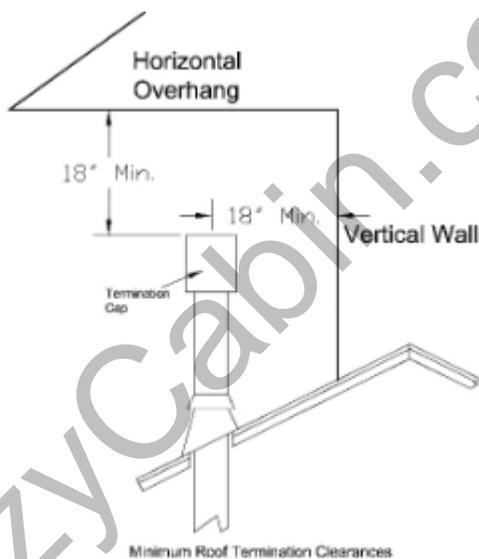

Figure 8 - Termination Cap clearances
- 🔥 All termination caps must be no less than 18” (457mm) horizontally from any roof or vertical surface. See Figure 8.
- 🔥 All horizontal terminations must also comply with the clearance specifications to adjacent structures outlined in Figures 8 & 11.